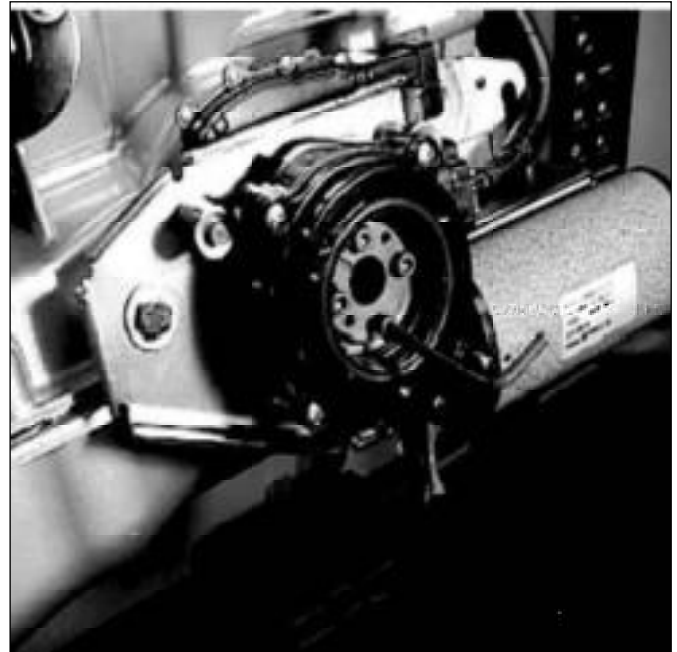

Fig. 7-15 .Loosen the four socket head cap screws..
7. Loosen (but do not remove) the 4 Socket Head Cap Screws that hold the shift shaft adapter in place, figure 7-15.
20. Remove the 4 Socket Head Cap Screws that hold the Shift Shaft Adapter in place, figure 7-15.